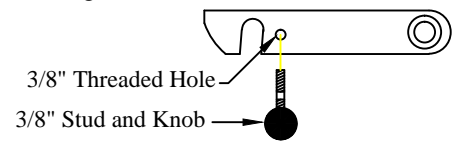

Figure 24: Original Series platform latch knob.
1. **Install** the two (2) knobs on the platform latches (Original Series only) see (Figure 24).
2. **Install** the two (2) square plastic insert nuts for the license plate into the square holes on the liftgate.
3. **Install** the license plate using the two (2) stainless steel screws provided.